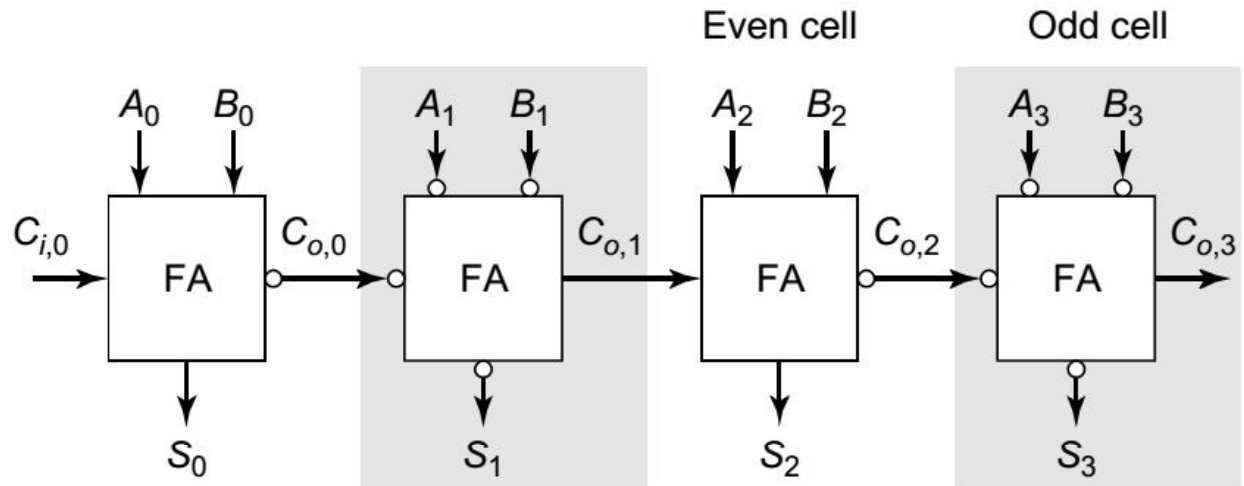
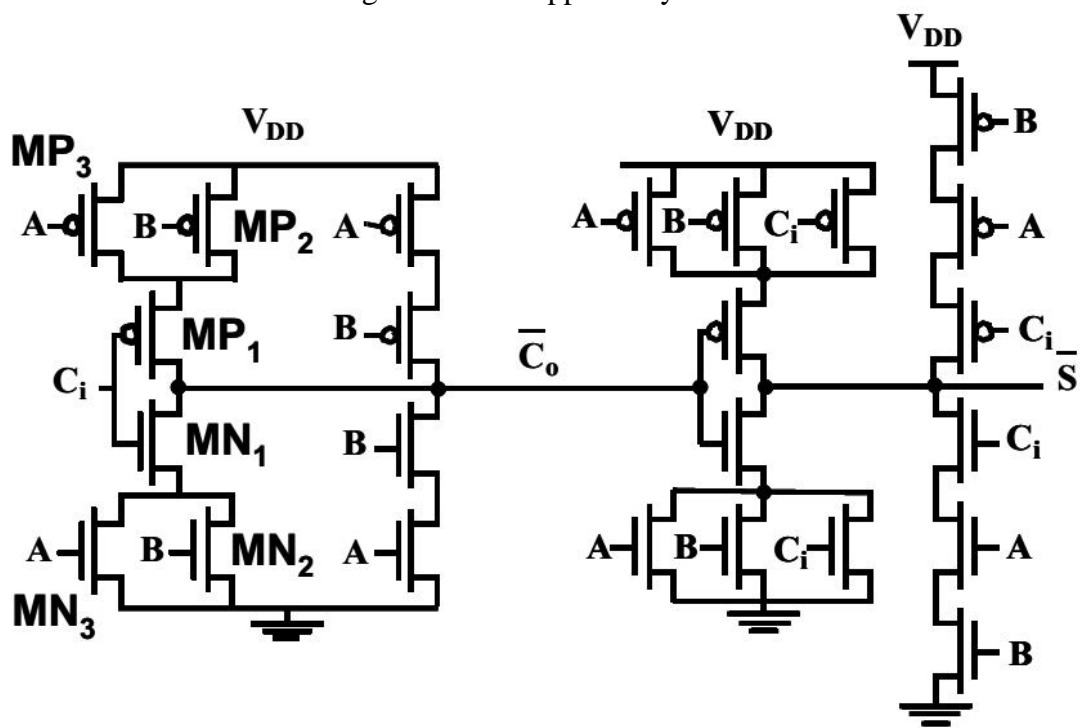

Figure 2: 4-bit ripple carry adder
Figure 3: 1-bit Mirror full adder schematic
1. You are required to design a 4-bit ripple carry adder shown in Figure 2. The building block of the design is a 1-bit Full Adder circuit constructed as a 24- transistor mirror shown in Figure 3. USE TSMC13RF from Cadence.
3. The optimization goal for the ripple carry adders is to obtain the least delay and layout area simultaneously. The carry propagation path of the full adder is composed of the pull down network of MN1, MN2, and MN3, and the pull up network of MP1, MP2, and MP3 (Figure 3). The full adder is required to operate at a target frequency of 450 MHz for this project. This means that the carry propagation time is to be at 2.5 ns at maximum. The optimization should be performed with proper loading of the full adder carry output (C_o). For proper loading, two identical Full Adders (FA) need to be cascaded where the second FA acts as the load of the first FA.